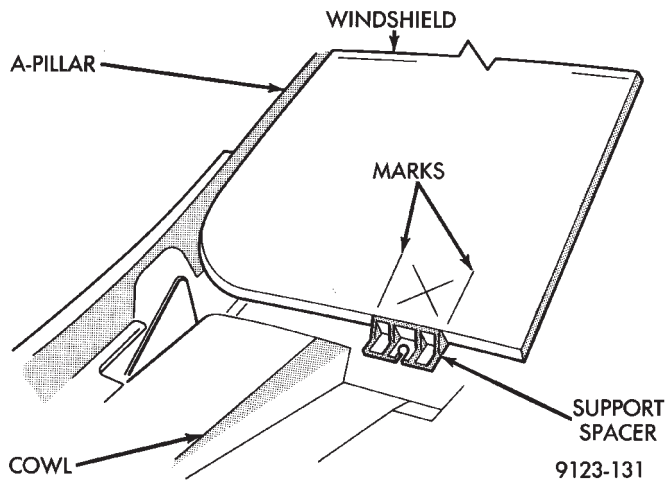
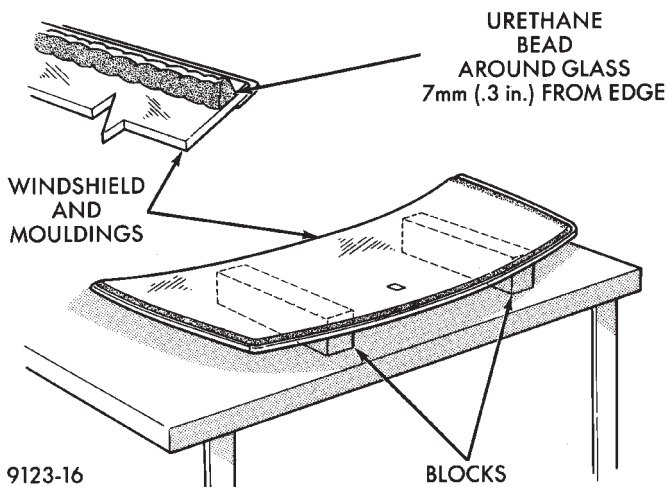

Fig. 3 Center Windshield and Mark at Support Spacers
Fig. 4 Work Surface Set up and Molding Installation
(1) Place replacement windshield into position and center in the opening against the support spacers.
(2) Verify the glass lays evenly against the pinch weld fence at the sides, top and bottom of the replacement windshield. If not, the pinch weld fence must be formed to the shape of the new glass.
(3) Mark the glass at the support spacers with a grease pencil or pieces of masking tape and ink pen to use as a reference for installation (Fig. 3).
(4) Remove replacement windshield from windshield opening.
(5) Position the windshield inside up on a suitable work surface with two padded, wood 10 cm by 10 cm by 50 cm (4 in. by 4 in. by 20 in.) blocks, placed parallel 75 cm (2.5 ft.) apart (Fig. 4).